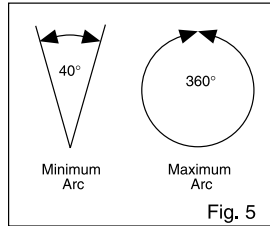

Fig. 5
- Adjust to any arc between 40° and 360° (Fig. 5).